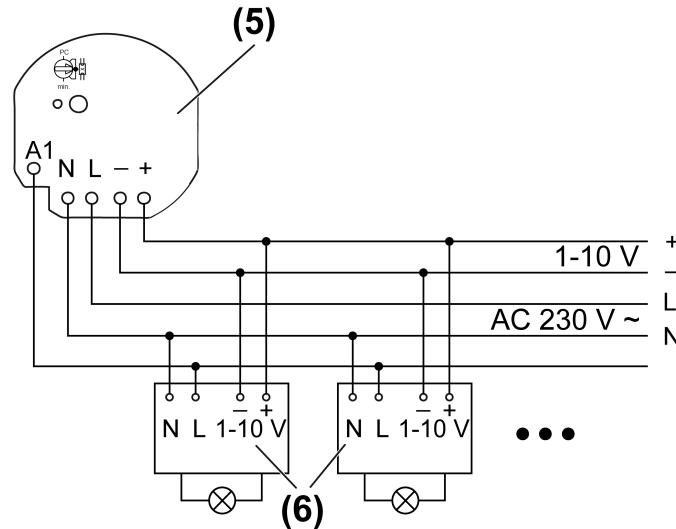

Figure 2: Connection example
- Connect actuator (5) and 1-10 V ballasts (6) as shown in the connection example (Figure 2). At the same time, note the information given by the manufacturers of the ballast.
- Insert the actuator in the appliance box in such a way that the **Prog** button (2) and status-LED (3) are visible.